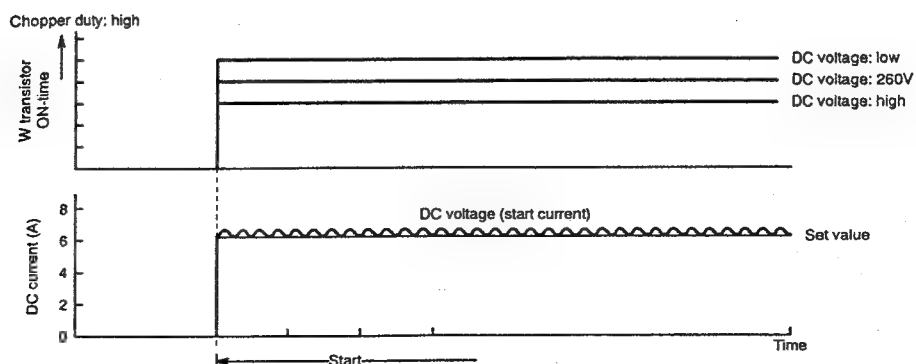

Fig. 8-10
- (2) Varies the turn-ON time of the W⁺ transistor according to the DC voltage level and the start is controlled so the start current is approx. 8A as shown in Fig. 8-10.